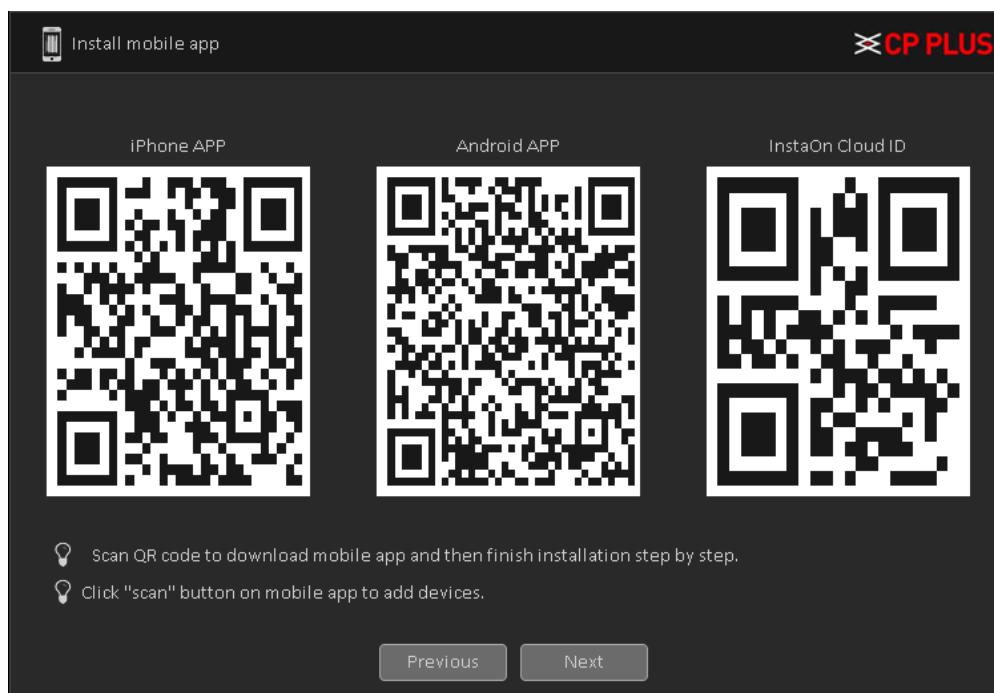

Figure 3.12
- Click on Next button, now you will go to install mobile app. See Figure 3.12. Here you will get QR code link to redirect mobile application for android and IOS base. And also you will get QR code to get serial No. of device for Instaon.